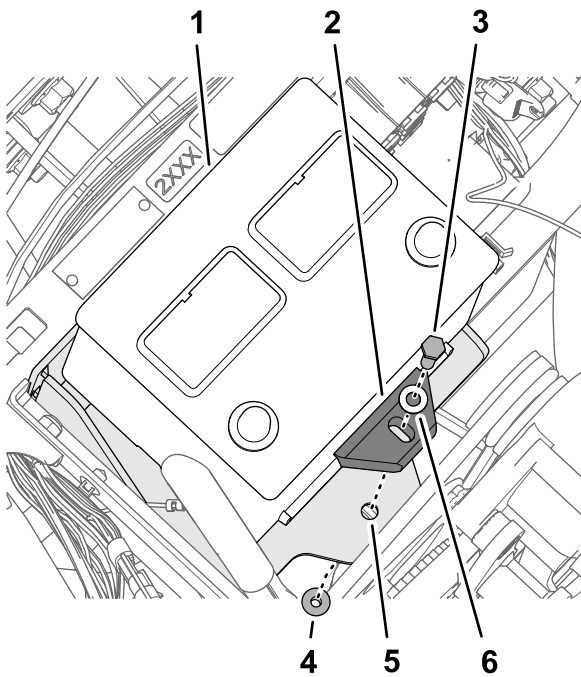

Figure 177
5. Assemble the battery to the battery bracket with the bolt (5/16 x 1-3/4 inches), washer (5/16 inch), battery retainer, and flange locknut (5/16 inch) as shown in Figure 177.